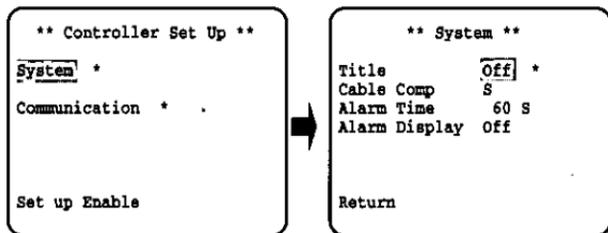

Fig. 19
2. Move the cursor to the "System" position by pressing the Up (▲) Switch or the Down (▼) Switch, then press the Set Switch to display the System Menu as shown in Fig. 19.